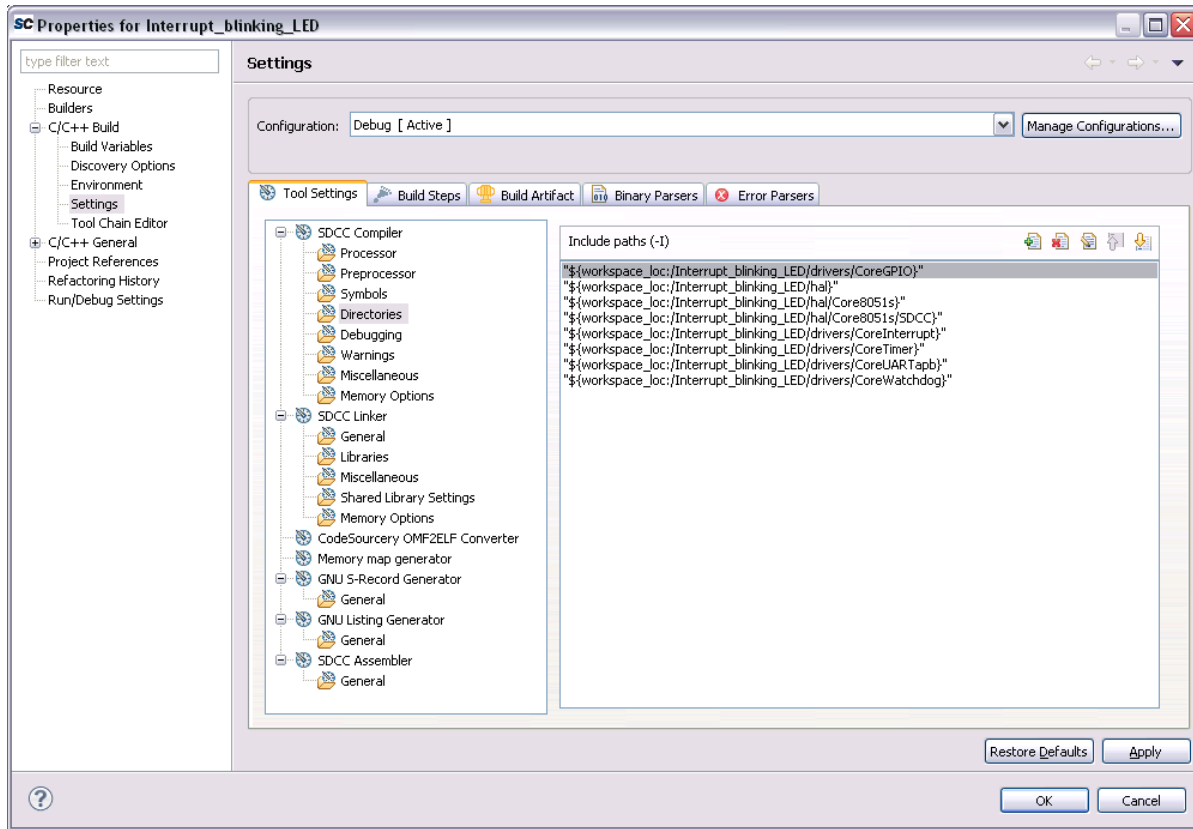

Figure 39 Include Paths
6. Similarly add CoreUARTapb, CoreWatchdog, CoreInterrupt, CoreTimer, HAL, Core8051s, and SDCC. Finally the settings window is displayed, as shown in Figure 39.